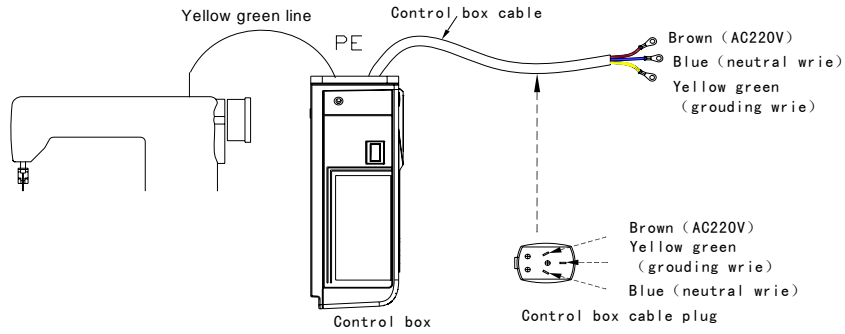
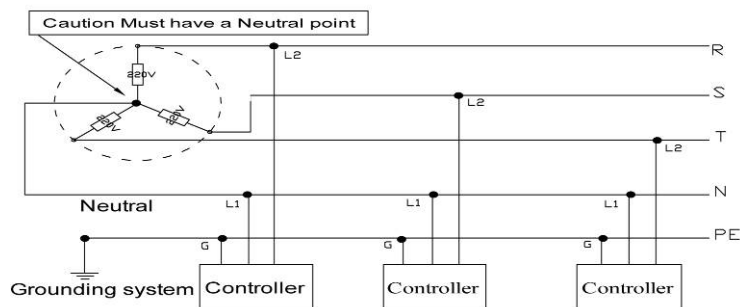

Fig. 3-1
Fig. 3-2
Ground wire (Green/yellow) must be grounded. Use the correct connector and extension wire when connecting ground wire to Earth and secure it tightly (see Fig.3-1).
A 1 Φ /220V power from a 3 Φ /380V Power source Connection (See Fig.3-2):
Step 1: Under idle state, first press  (1key) and hold on, then press  (3key) .Two keys are pressed at the same time, digital tube display see figure 3.1, required to enter the password. The default password is 000.
Fig.3.1 password interface
Step 2: Press  (3key),  (4key),  (5key) ,Modify the digital tube display to the correct password, and then press  (1key) . If the password is correct, enter the parameters modified index, see figure 3.2, or remain in the password input state, see figure 3.1.
Fig.3.2 technical index